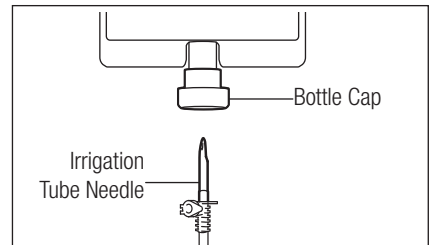

Fig.11
- 1) Place the coolant solution bottle on the hanger post and insert the irrigation Tube Needle into the bottle cap. (Fig. 11)